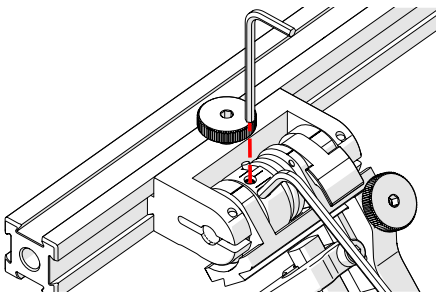

Fig. 143 - Insert hex tools
4. Place the 2 mm hex wrench into the force adjustment screw (Fig. 143).